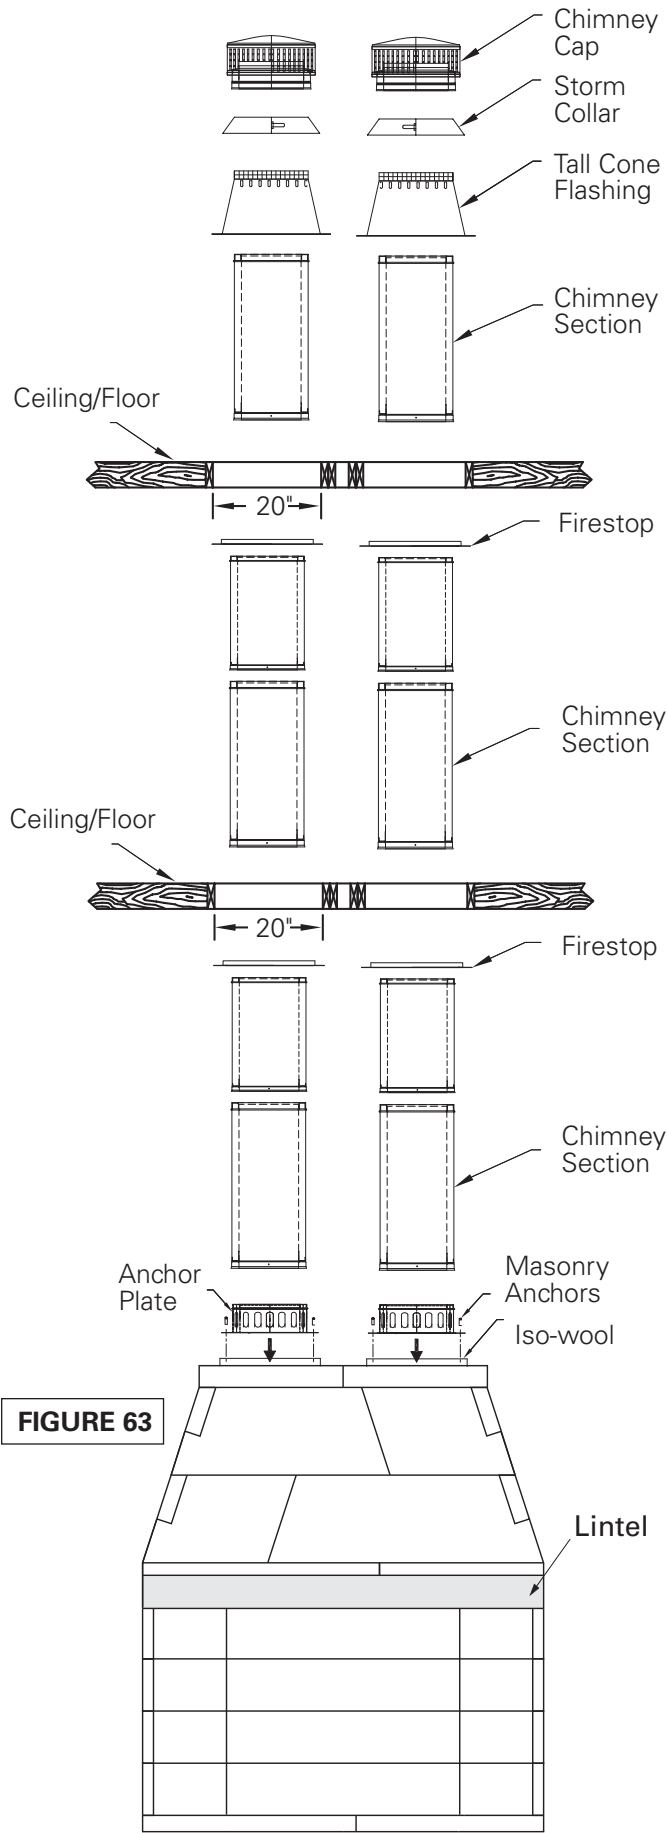

FIGURE 63
5. Install Firestop: A Firestop is required on each floor penetration in multistory installations. Building Codes require a Firestop at every floor/ceiling level including where the chimney penetrates the attic. **Figure 63** shows a typical 2 story installation with an attic.
NOTE: A Firestop is not installed where the chimney penetrates through the roof. The Firestop is installed on the underside of the ceiling/floor framing and secure in place with nails or screws. (**Figure 63**)